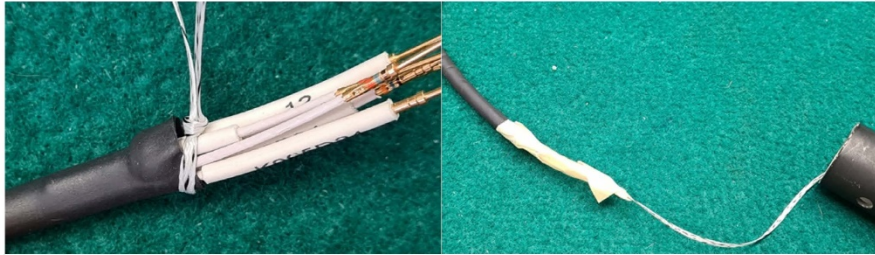

Figure 16 – Securing the wiring to the puller cord
- Refer to Figure 16. Tie the puller cord to the end of the wiring.